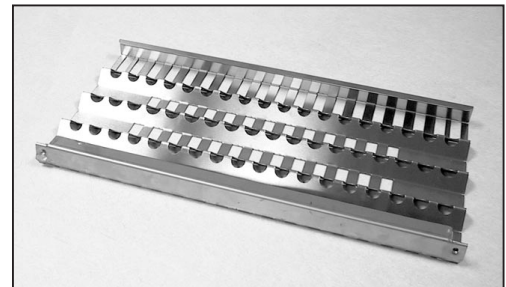

FIG. 12
1. Unpack ceramic rods and remove radiant (Fig. 12) from the unit.